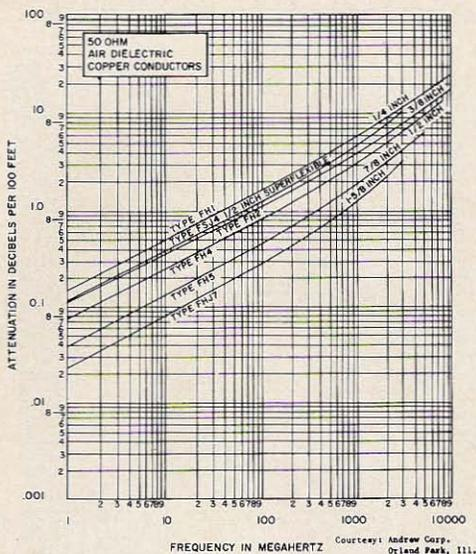

Fig. 9. Foam filled loss chart.
0.42 dB 20 ft 7/8 in. coax (Fig. 9)